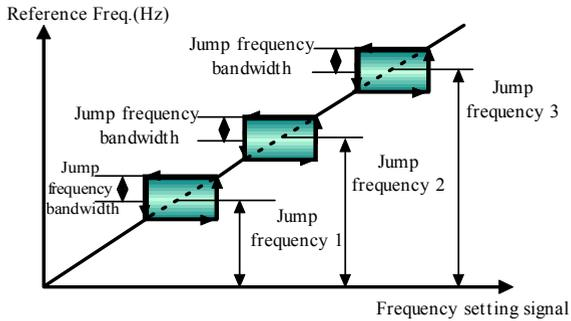

Fig. 5-2-5 Jump Frequency
- ◆ To avoid mechanical resonant, the ac drive can skips round some running points, which is called Jump frequency. As shown in Fig. 5-2-5.